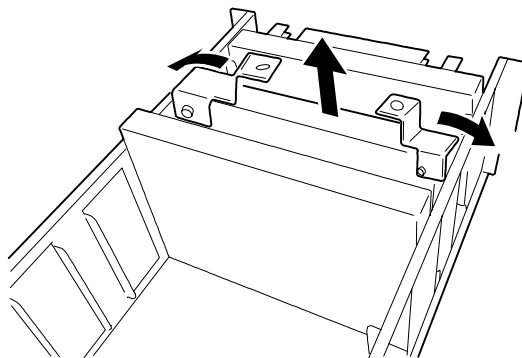

Figure 4-11. Removing Processor Cartridge
- 12.** Open the latch levers by pushing them towards the outside and remove the processor cartridge (see Figure 4-11). Then place the processor cartridge on a grounded, static-free surface or conductive foam pad.